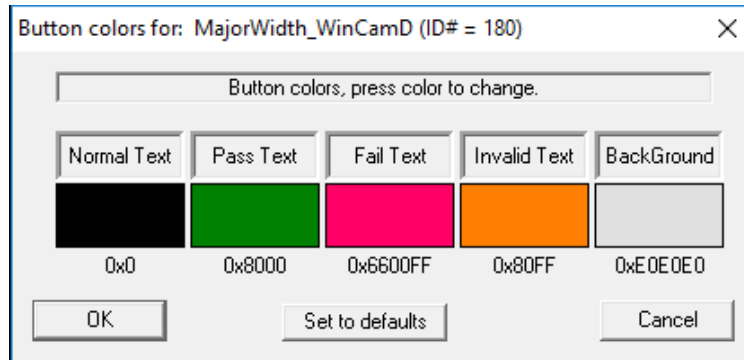

Fig. 4.15: Button Color Settings
- Right-click on any 1D profile area to open the selection box shown in Figure 4.15. Default settings are as shown. The range of options allows you to control how 'busy' the display appears.